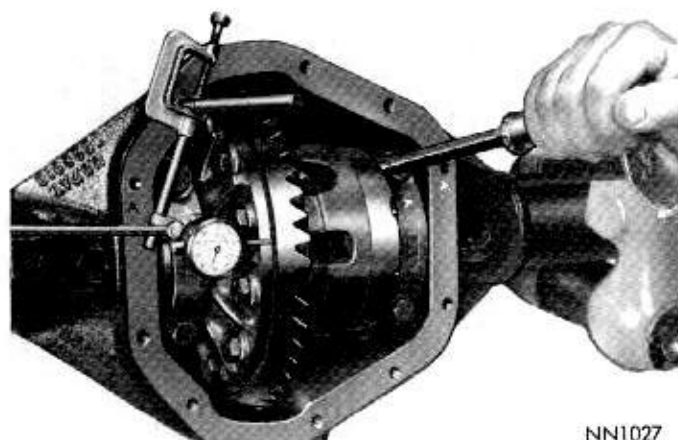

Fig. 34—Determining Shims to Obtain "O" End Clearance
(5) Position differential bearing cups on their respective cones and insert differential case in carrier. Install bearing caps in their correct positions and tighten bearing cap bolts finger tight.
(6) Install dial indicator fixture with indicator pointer contacting back face of drive gear.
(7) Insert a screwdriver blade between bearing cup and housing and pry case assembly as far as possible to one side of housing (Fig. 34). Set dial indicator at zero. Using screwdriver, pry case to opposite side of housing and record the reading.